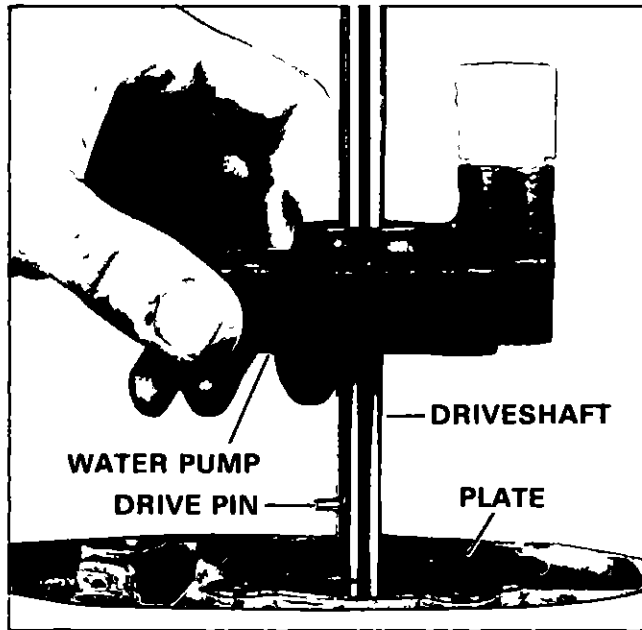

Figure 19. Removing Water Pump.
- A Remove four (4) hex screws securing pump to upper gear housing Figure 19